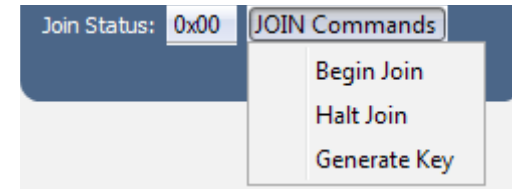

Figure 20: The Master Development System Software Join Commands
11. The Join Commands button sets the Join Process Control options in the CMD register. Clicking on the button opens a menu of the Join commands. Clicking on one of the commands triggers that operation (Figure 20).